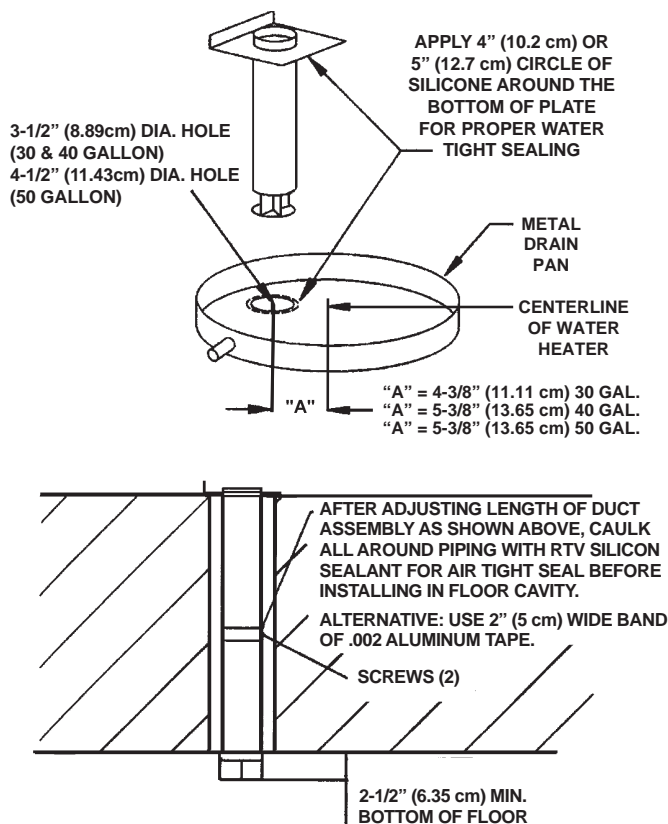

FIGURE 5.
- To locate the position of the 3-1/2" (8.9 cm) or 4-1/2" (11.4 cm) hole to be cut in the floor, see Figures 5 and 6.